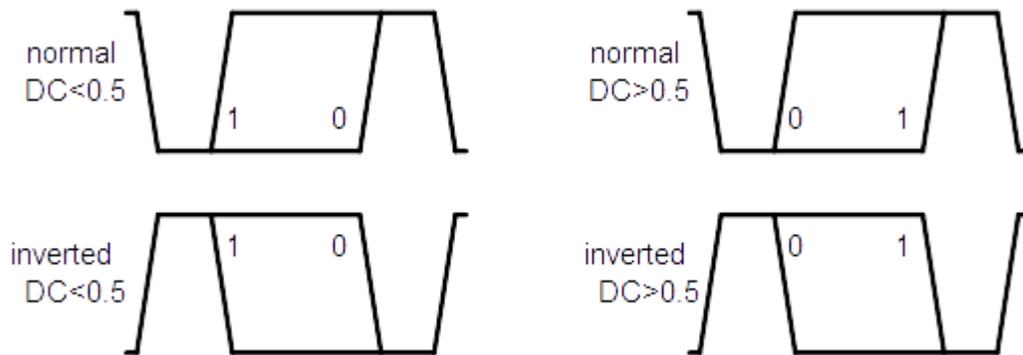

Figure 1-3: PWM Parameters
Instead of plain pattern encoding, a PWM encoding scheme can be utilized. A PWM waveform is defined by three parameters: the data rate, the inversion, and the duty cycle (DC) of the logical bits. Figure 1-3 shows the impact of the inversion and the duty cycle (zero ratio, i.e. the duty cycle of a logical zero).